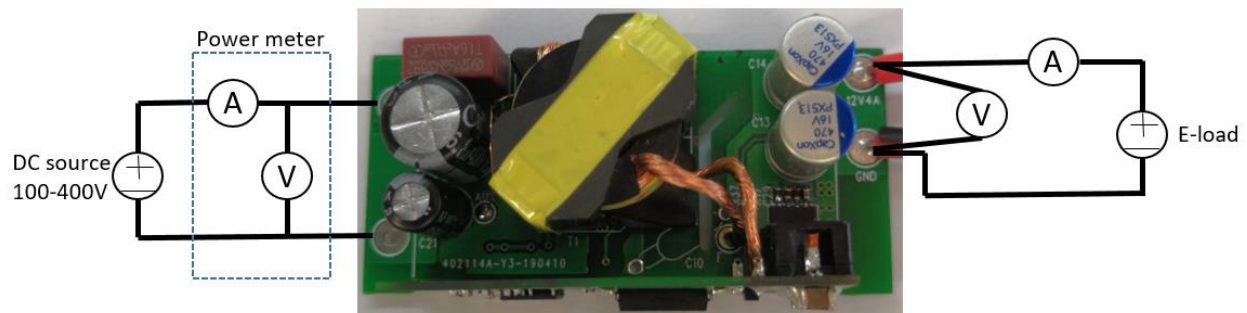

Figure 1: Test Setup for 48W PD Demoboard
1. Connect the test setup as shown in Figure 1.